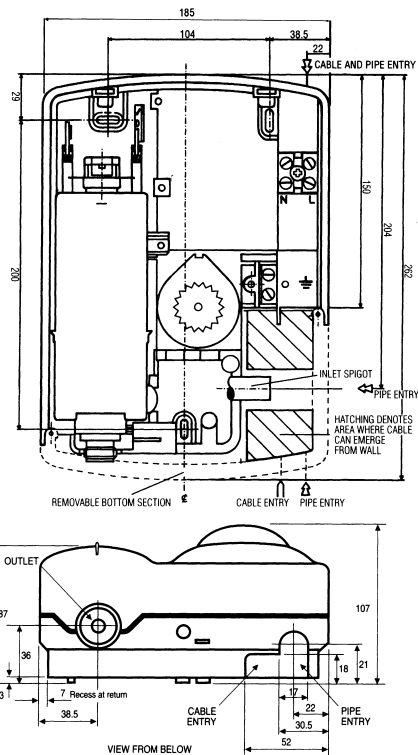

Figure 4.8 Backplate dimensions (in mm)
4.4 Decide which entry points you will use for cable and water pipe (See Fig. 4.8).
For rear entry, cable must emerge from the wall only in the areas specified in Fig. 4.8. You will need at least 280mm of cable to emerge from the wall to allow connection to the terminal block.